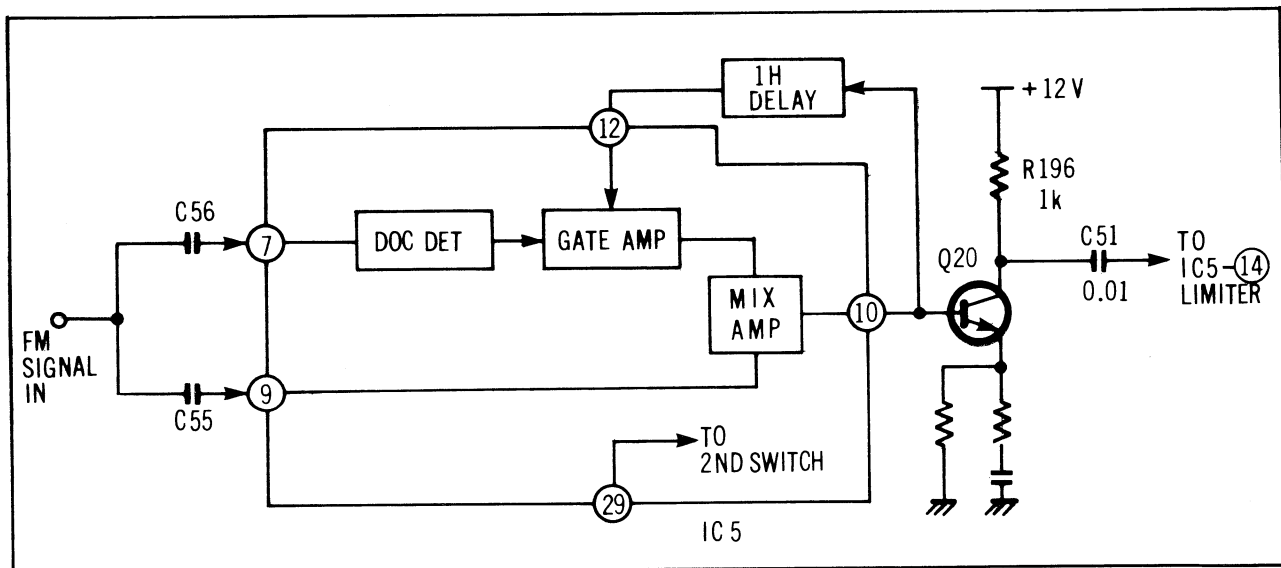

Figure 2-95
In either case, the signal outputs are Pin (10), and Q20 (See Fig. 2-95).